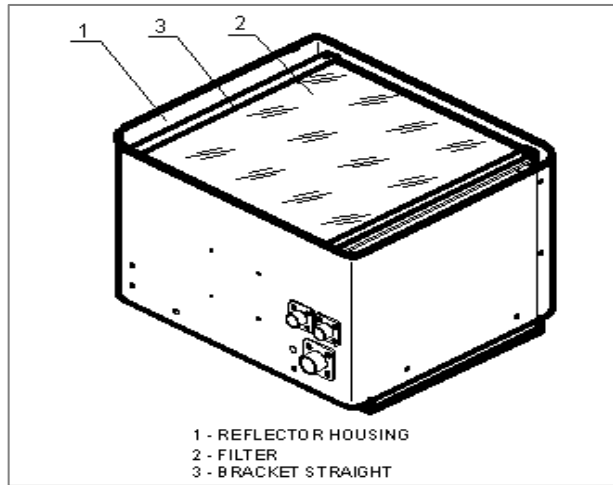

Figure 3. System Interconnect
- Connect the Cable (3), as shown in Figure 3, to the J3 Receptacle on the Reflector Housing. Coded red.
- Connect the other end of the Cable (3) to the Lamp Power Receptacle located on the rear panel of the Power Supply (1). Coded red.
- Plug the AC Cord into the Power Module located in the rear panel of the Power Supply (1).